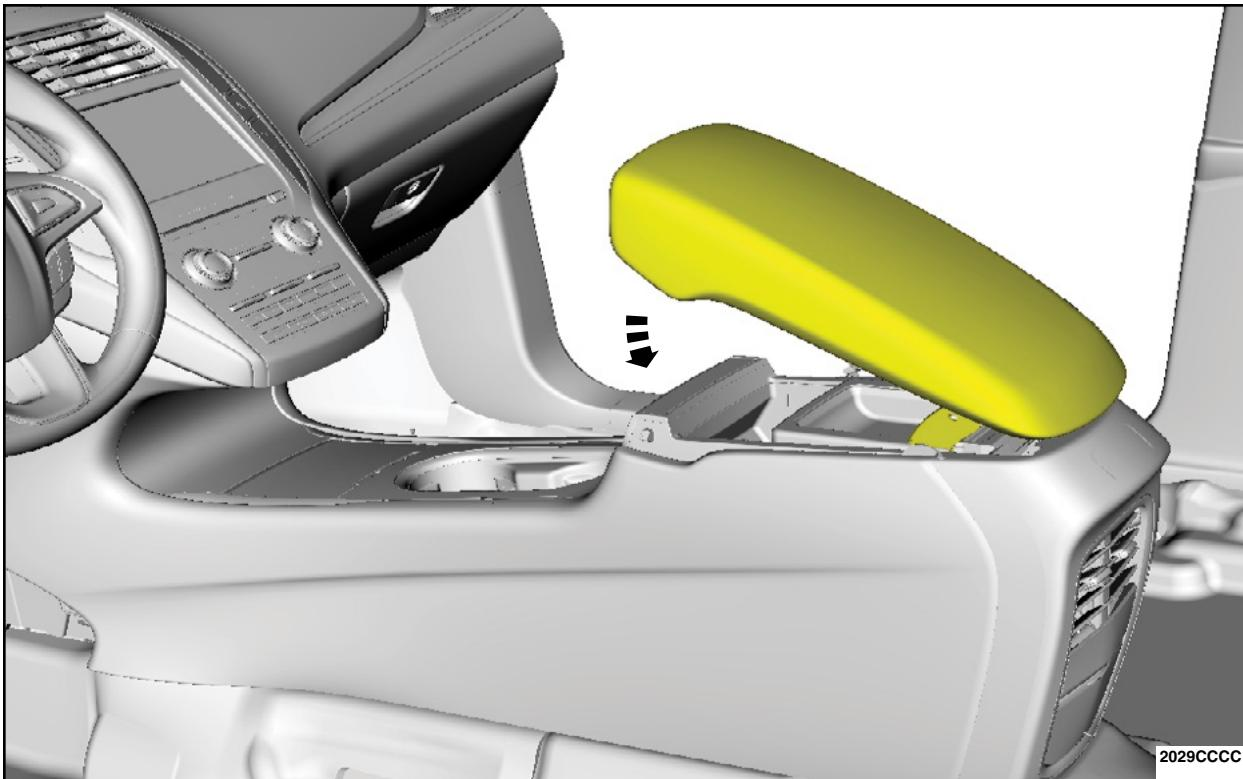

FIGURE 15
18. Close the floor console stowage bin lid. See Figure 15.